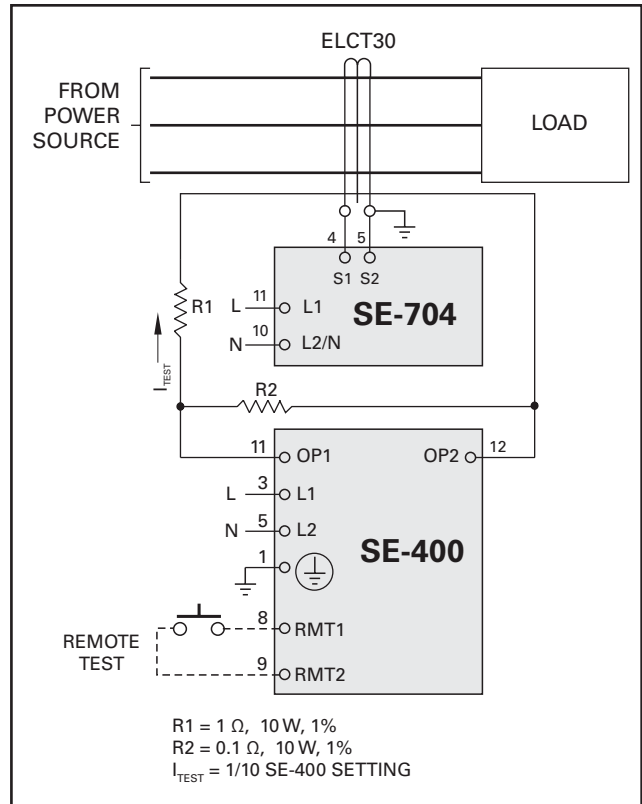

FIG. 9. Earth-Fault-Test Circuit.
4. Verify proper reaction of the circuit-interrupting device in response to a simulated or controlled earth-fault current. To simulate earth-fault current, use CT primary current injection. Fig. 9 shows a test circuit using an SE-400 Ground-Fault-Relay Test Unit. The SE-400 has a programmable output of 0.5 to 9.9 A for a duration of 0.1 to 9.9 seconds. Fig. 9 shows the use of resistors that reduce the injected current to 10 % of the SE-400 setting. Set the test current to 120 % of the SE-704 setting. Inject the test current through the current-sensor window for at least 2.5 seconds. Verify that the circuit under test has reacted properly. Correct any problems and re-test until the proper reaction is verified.